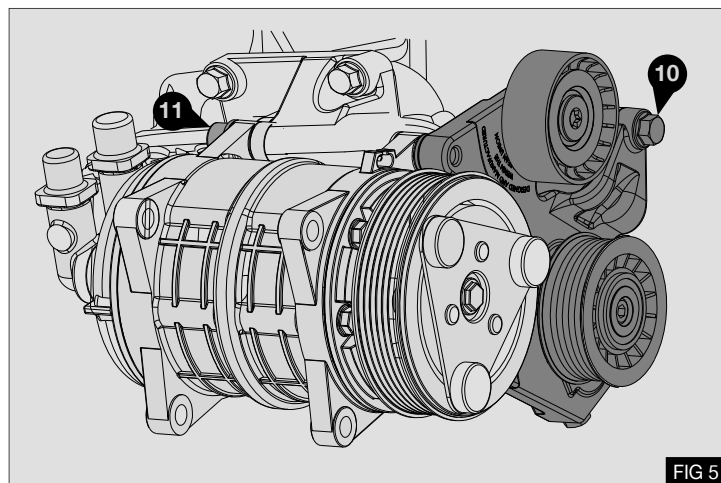

FIG 5
4. Mount the tensioner bracket assembly to the front compressor ears, using the 2 x M10 x130 bolts previously fitted (11) Fig 5
5. Secure the tensioner bracket assembly to the mounting point for the original idle pulley, using bolt (10) M8 x 35 - Fig 5